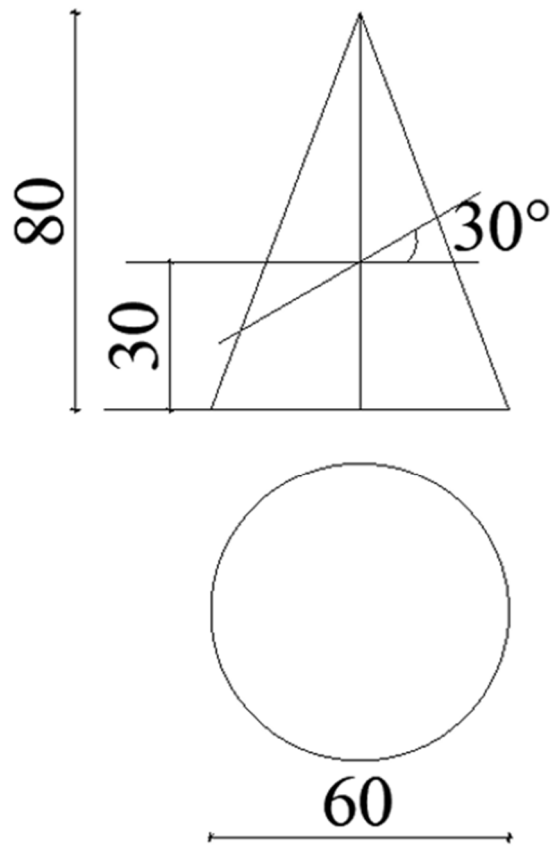

FIGURE 5
14. Figure 5 shows a truncated right circular cone with base diameter 60 mm, top diameter 30 mm, and height 80 mm. Draw the: